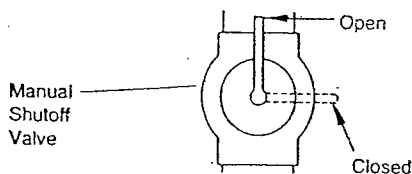

Figure 5
1. Close manual shutoff valve (see Figure 5).
1. Open manual shutoff valve (see Figure 5).